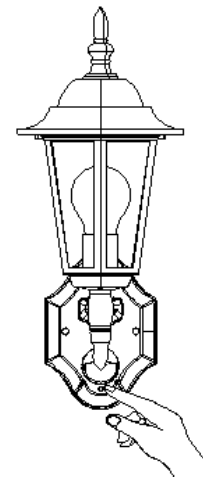

FIGURE 12
- b. Pressing LED button at least 3 seconds will emit "learning command" radio signal to the associated receiver. (FIGURE 12) During 3 seconds transmission period, the LED button will illuminate for about 1.5 seconds.